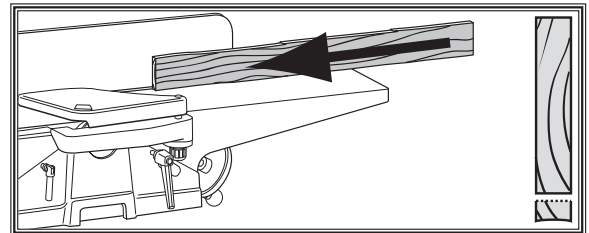

Figure 32. Edge joint on the jointer.
3. **Edge Joint on the Jointer:** The concave edge of the workpiece is jointed flat with the jointer (Figure 32).